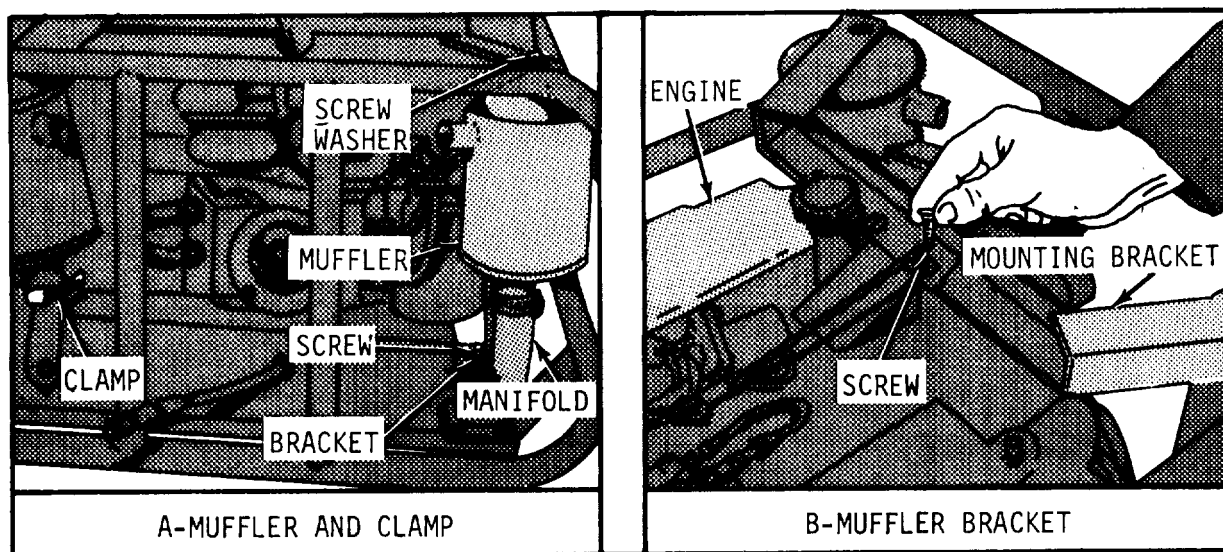

Figure 4-8. Removing or installing mufflers.
4-20. Mufflers (fig. 4-8).
(1) Remove mufflers (par. 4-20).
(2) Loosen screw, and move manifold bracket away from manifold (fig. 4-8).